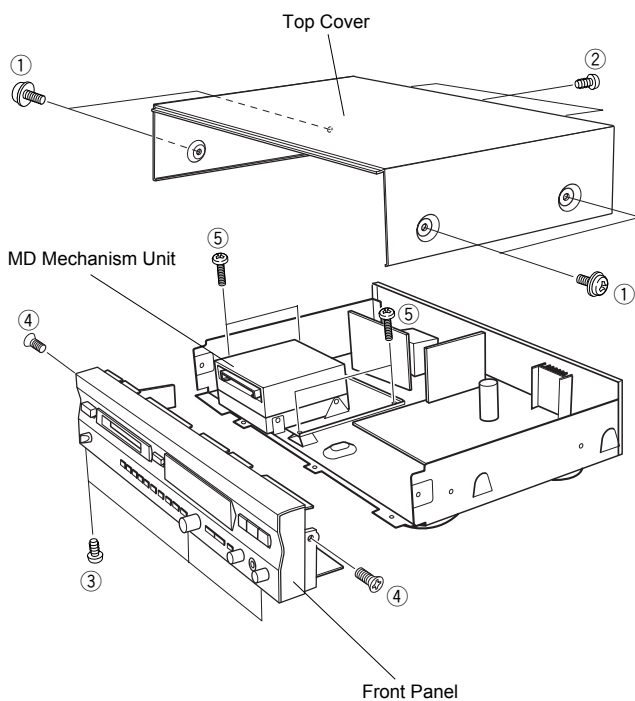

Fig. 1
- a. Remove 4 screws (①) and 3 screw (②) in Fig. 1.
- b. Remove 3 screws (③) and 2 screws (④) in Fig. 1.
- b. Remove 4 screws (⑤) in Fig. 1.